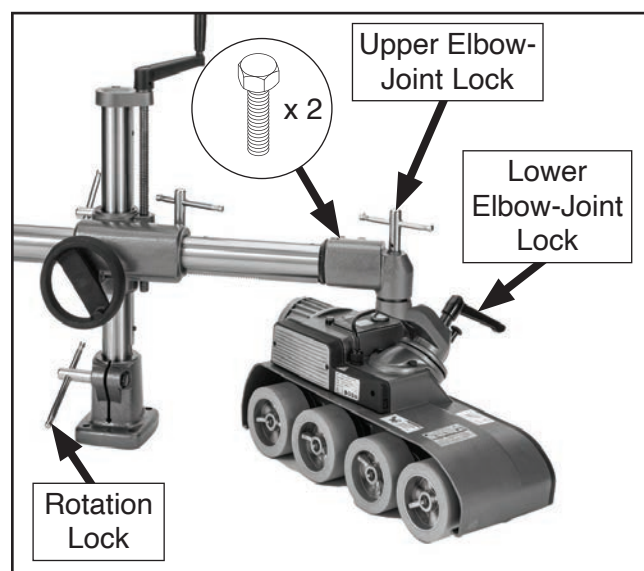

Figure 24. Location of controls for re-positioning power feeder for incline feeding.
Use the controls shown in **Figure 24** to position the power feeder for incline feeding.
2. Loosen rotation lock (see **Figure 24**) and swing power feeder off of machine table.
3. Loosen (2) hex bolts on upper elbow-joint, rotate upper elbow to desired angle, then tighten hex bolts (see **Figure 24**) to secure setting.
4. Loosen upper elbow-joint lock and lower elbow-joint lock (see **Figure 24**).